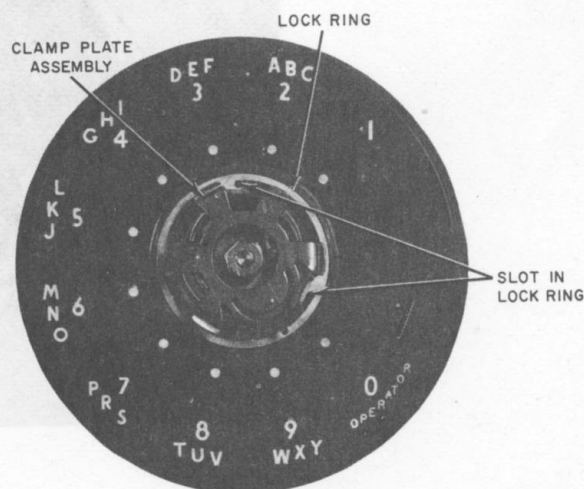

Fig. 9—Fingerwheel and Finger Stop Removed to Show Lock Ring
- (3) Insert tip of screwdriver blade into one of the three slots on the lock ring (Fig. 9).